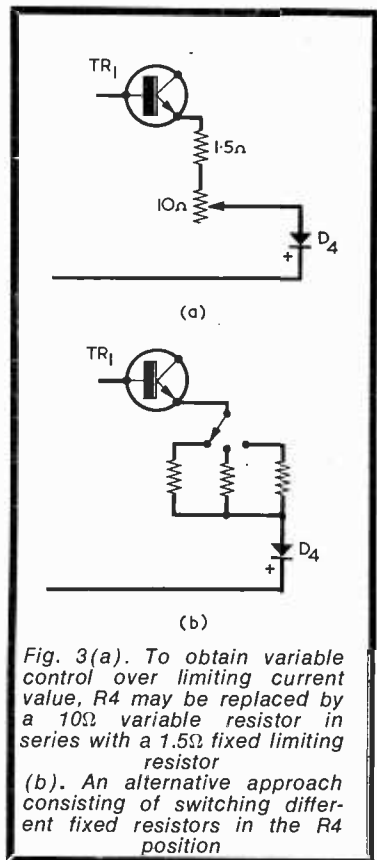

Fig. 3(a). To obtain variable control over limiting current value, R4 may be replaced by a 10Ω variable resistor in series with a 1.5Ω fixed limiting resistor
Refer to the point-to-point diagram published on page 499 of the March 1970 issue and also to Fig. 3 shown here.
5. Refer to Fig. 3 in which, for convenience of presentation of connections, the headphone jack is shown with the flat side uppermost.
Fig. 3. Point-to-point wiring diagram of the added headphone jack. Note that all wiring is shown in exploded form for purposes of clarity and that, in the receiver, the jack is mounted on the front panel with all leads to it being fed through an additional rubber grommet in the chassis deck - see illustration of the above-chassis view
stant current limiting value and vice versa. Some constructors may prefer to make these adjustments experimentally by means of different series/parallel combinations of low-value fixed resistors. Alternatively, a variable resistor could be used, a suitable component being the Bulgin 10Ω 3 watt wirewound potentiometer List No. I.V.C.1 (Home Radio Cat. No. VR22A), the track of which can carry currents up to 550mA. If this potentiometer were used in the R4 position it should be connected up as shown in Fig. 3(a), where a 1.5Ω fixed resistor is wired in series to prevent too low a resistance being accidentally inserted in the emitter circuit. If desired, the variable resistor could be provided with a pointer and scale, the latter being calibrated in terms of the corresponding constant current it causes to flow. An alternative switched approach consists of having switched fixed resistors, as in Fig. 3(b), each switch position corresponding to a particular constant current. In all these cases the final value of resistance required is found empirically by measuring the constant current. This process is carried out by connecting a suitable current reading meter across the output terminals of the protection circuit, the trip being temporarily put out of action by short-circuiting R2. The meter then reads the constant current directly. Care should be taken to ensure that R4 is not, under these conditions, accidentally given too low a value, as very heavy currents may then flow.